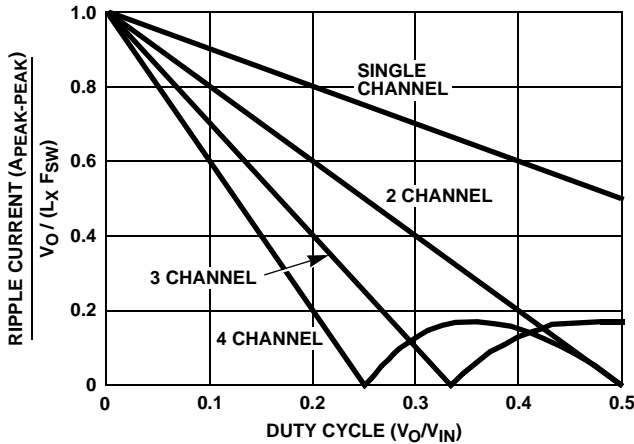

FIGURE 12. RIPPLE CURRENT vs DUTY CYCLE
The current from multiple channels tend to cancel each other and reduce the total ripple current. Figure 12 gives the total ripple current as a function of duty cycle, normalized to the parameter (VO)/(Lx FSW) at zero duty cycle. To determine the total ripple current from the number of channels and the duty cycle, multiply the y-axis value by (VO)/(Lx FSW).